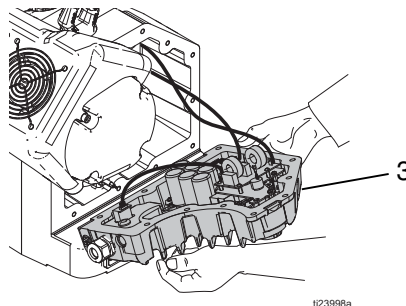

FIG. 18: Remove Electronics Cover
4. Carefully remove electronics cover (3). See FIG. 18, page 16.